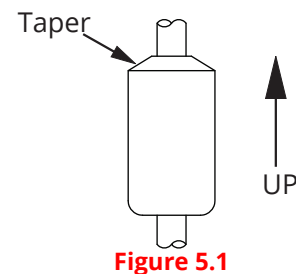

Figure 5.1
- The float(s) is/are oriented properly on the stem (See Figure 5.1 below). MPX-T floats are typically installed by customer.